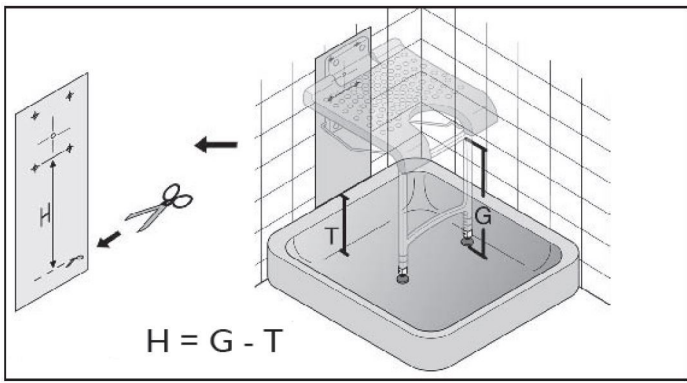

Fig. 6
5. Measure the resulting height H on the template and cut the template horizontally. (Fig. 6)